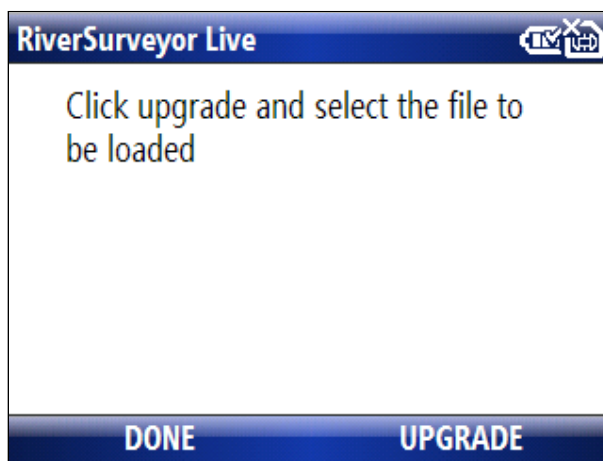

Figure 75. Utilities – Firmware Upgrade
Firmware Upgrade (Figure 75): This menu lets you update ADP firmware by selecting a firmware file (*.a79) stored in the phone's memory card (SD) or internal memory. Select UPGRADE and follow the on-screen instructions to install new firmware.